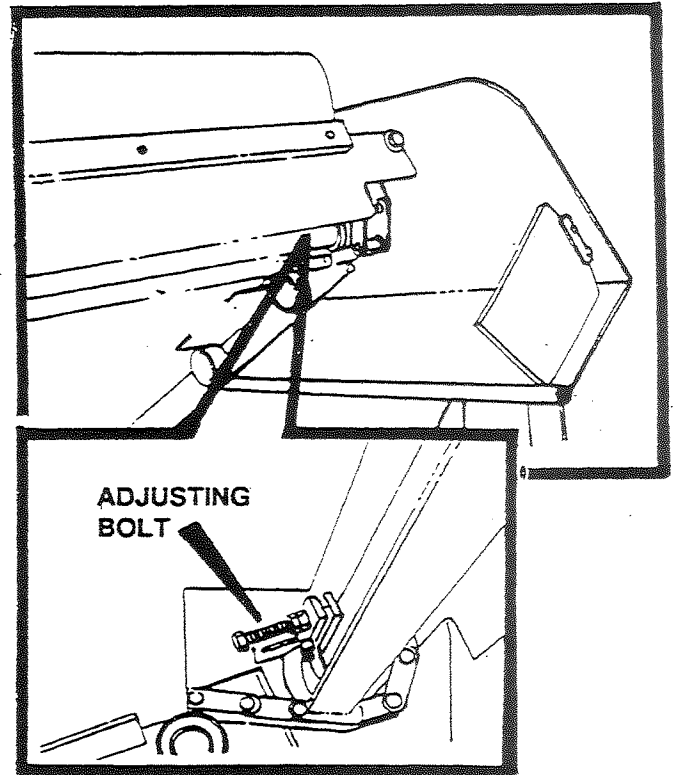

FIGURE 33
- a. Refer to figure 33 and loosen the lock nut.